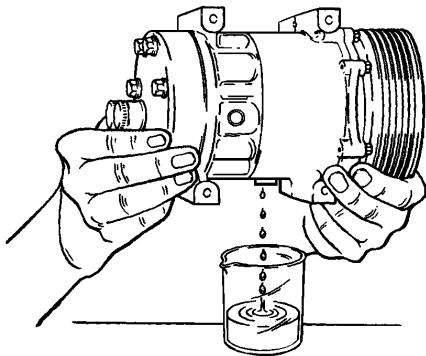

Figure 47 Drain as Much Oil as Possible
3. Remove the oil plug and drain as much oil as possible into a suitable calibrated container (refer to Figure 47).